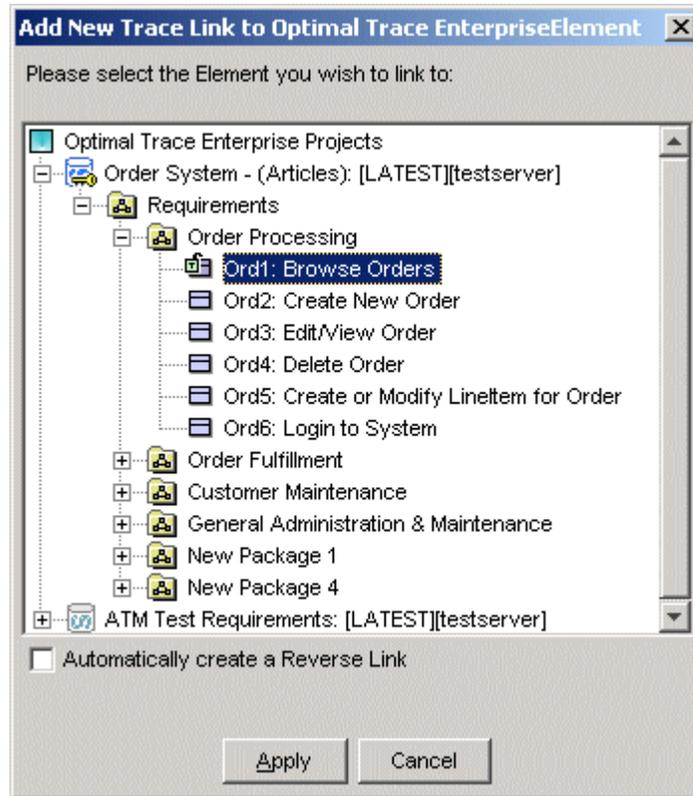

Figure 19 - Adding an Optimal Trace Element Trace Link
- The Link Location now needs to reference a given Optimal Trace element. A screen appears allowing you to specify the given element that is being linked to (See Figure 19 - Adding an Optimal Trace Element Trace Link).